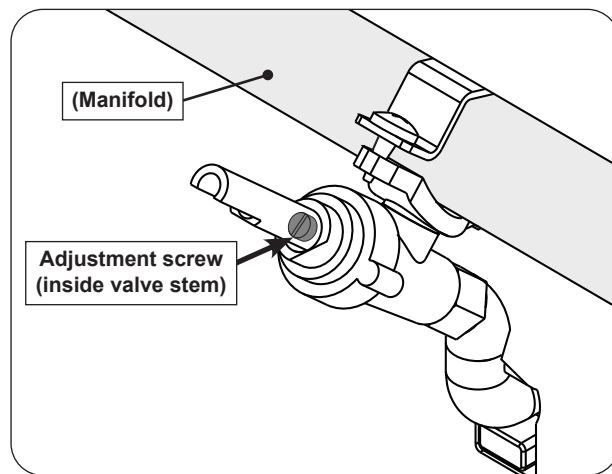

Fig. 48-1 Valve adjustment screw location
4. Locate the FLATHEAD adjustment screw found inside the valve stem (see Fig. 48-1).